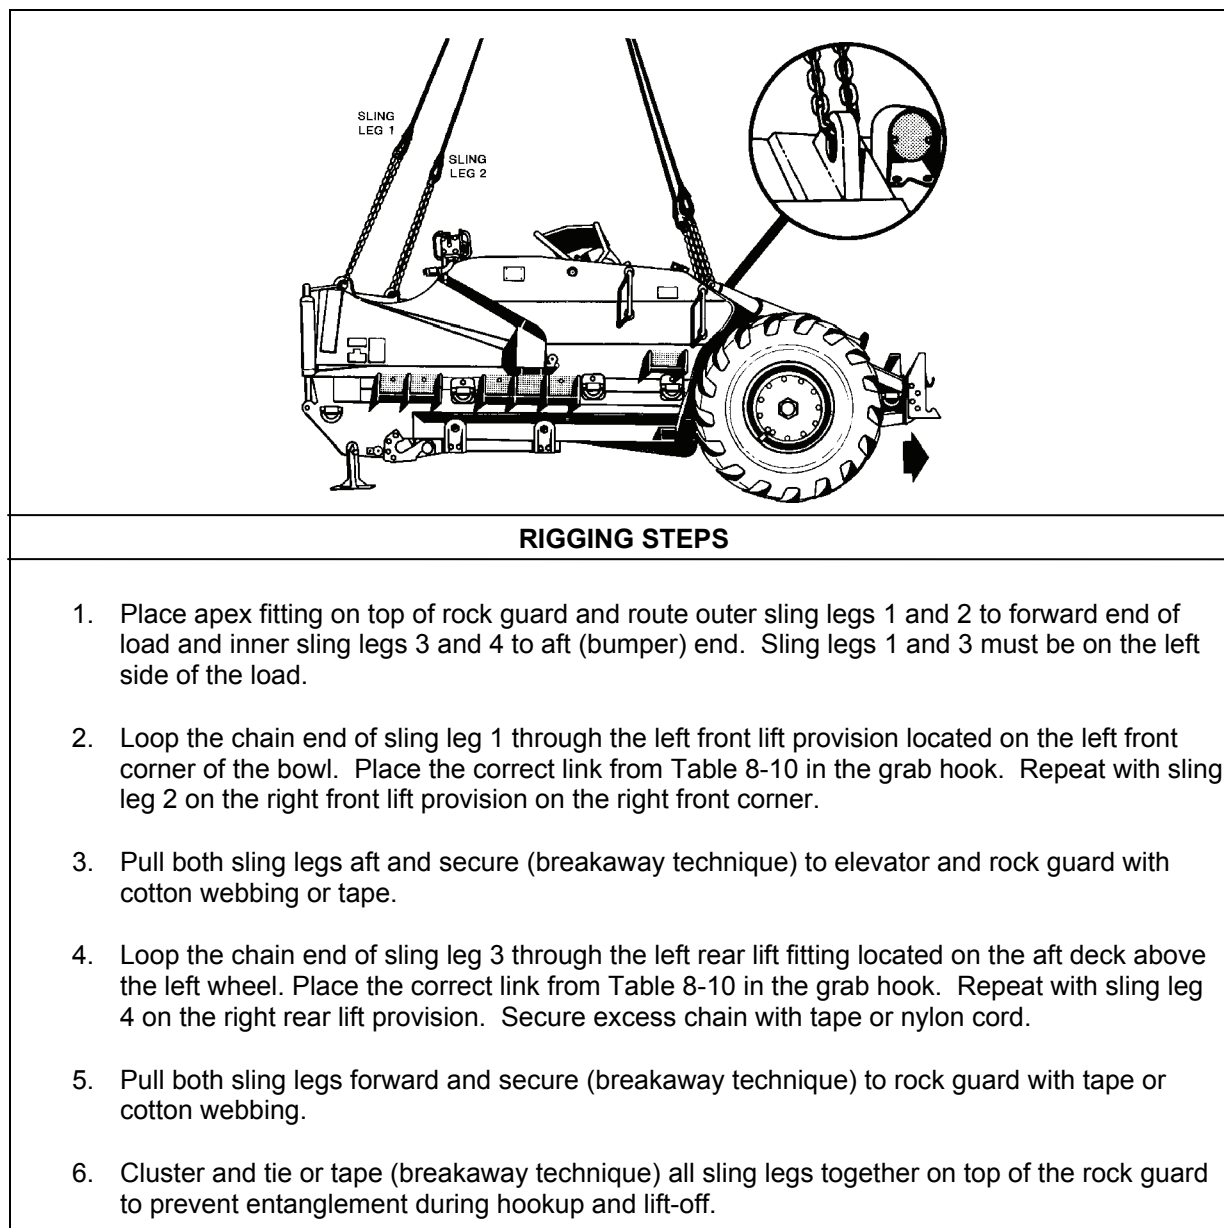

Figure 8-11a. 613BS Elevating Scraper (Work Section)
- **Rigging.** Rig the load according to the steps in Figures 8-11a and 8-11b.